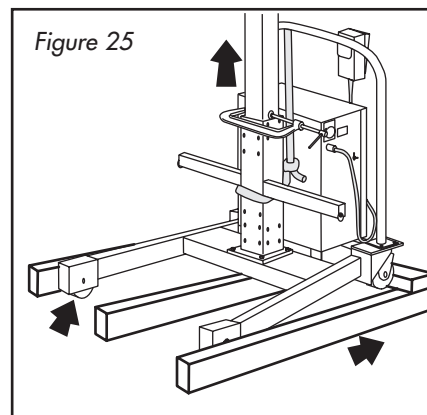

Figure 25
5. Lift the back of the unit with the sling system. Lift to keep the rear supported and place the front wheels on the floor. (Figure 25)